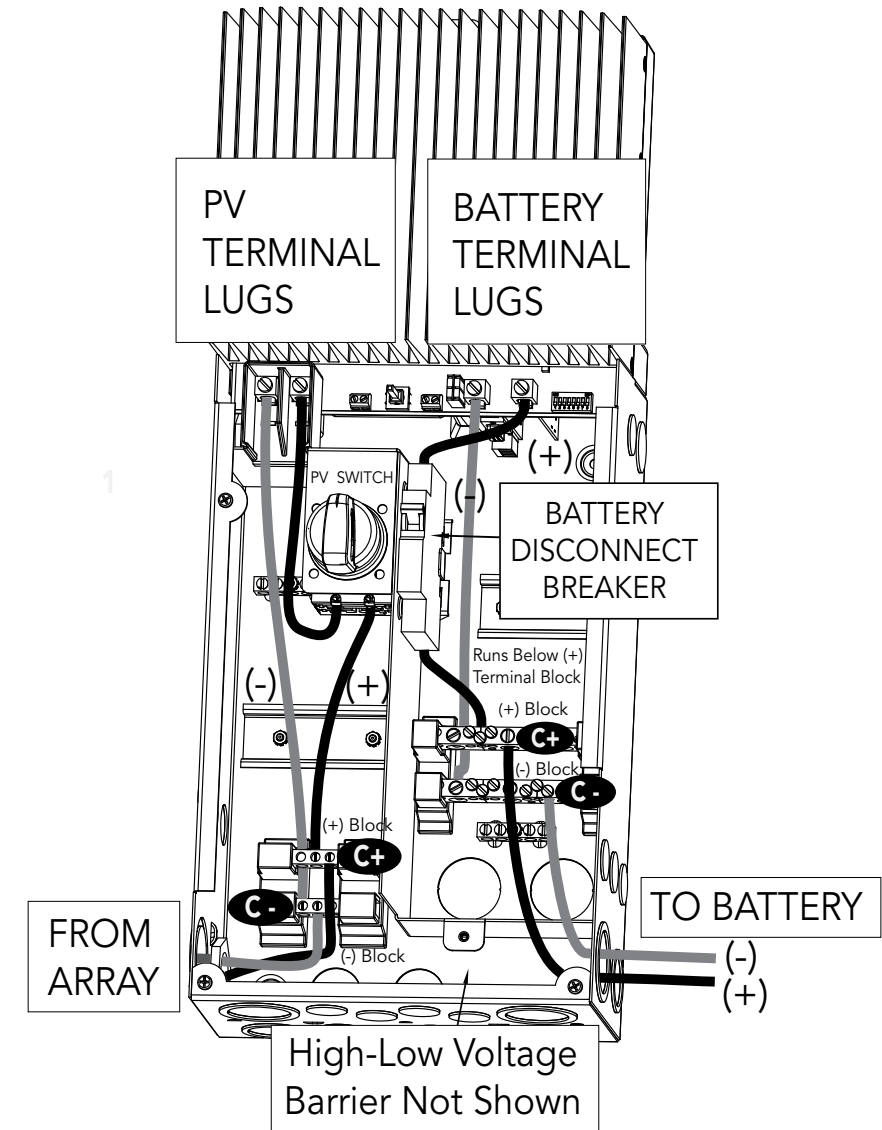

Figure 3-15. Power Terminal Locations
**Connect the four (4) power conductors shown in Figure 3-15 as described in the following steps:**
- Pull solar and battery wires into the Disconnect Box (DB). The Remote Temperature Sensor (RTS) and Battery Sense wires can be routed inside conduit with the battery power conductors, if required. Unless rated for 600V, the RTS and Battery Sense wires CANNOT be routed in the same conduit with the high voltage solar conductors. It is easier to pull the RTS and BVS wires before the power cables.